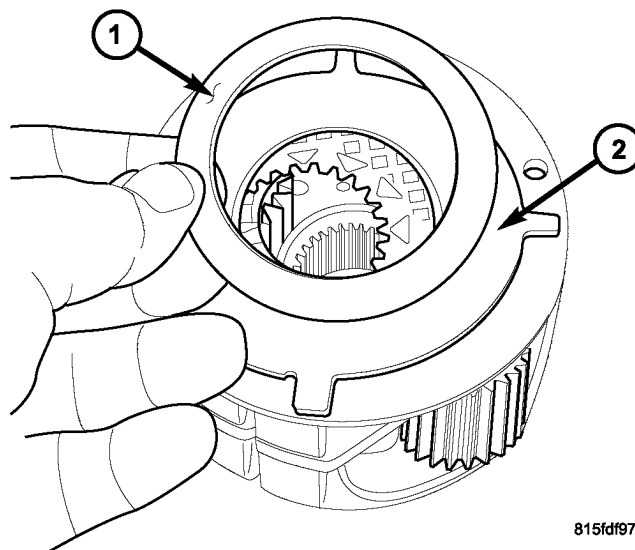

Fig. 5 REMOVE PLANETARY BELLEVILLE SPRING
9. Remove the belleville spring from the friction disc apply plate (Fig. 5).